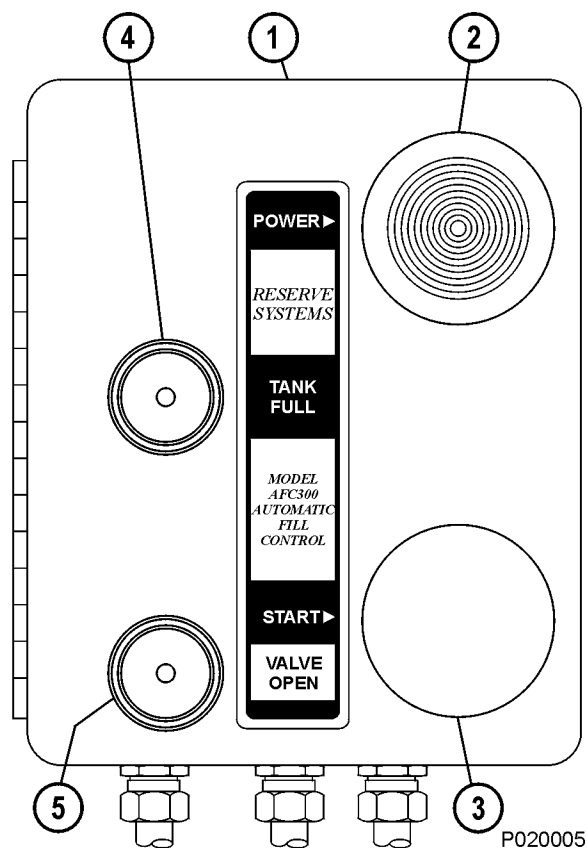

FIGURE 31-3. RESERVE OIL TANK
System switch (2, Figure 31-3) is an illuminated push-pull POWER-ON switch that powers the fill system. Start switch (3) is a momentary push button switch that opens the fill valve mounted on the reserve tank to begin the automatic filling of the reserve tank. Supply oil under pressure flows through the fill valve and into the tank.
2. Pull out on system switch (2, Figure 31-3) to turn the fill system on.
3. Push start switch (3). VALVE OPEN light (5) should illuminate and the filling process will begin.
4. When the tank is full, the VALVE OPEN light will turn off and FULL light (4) will illuminate.
6. Press and hold start switch (3) for a couple of seconds to relieve oil pressure in the line.
8. Push switch (2) in to turn fill system power off.